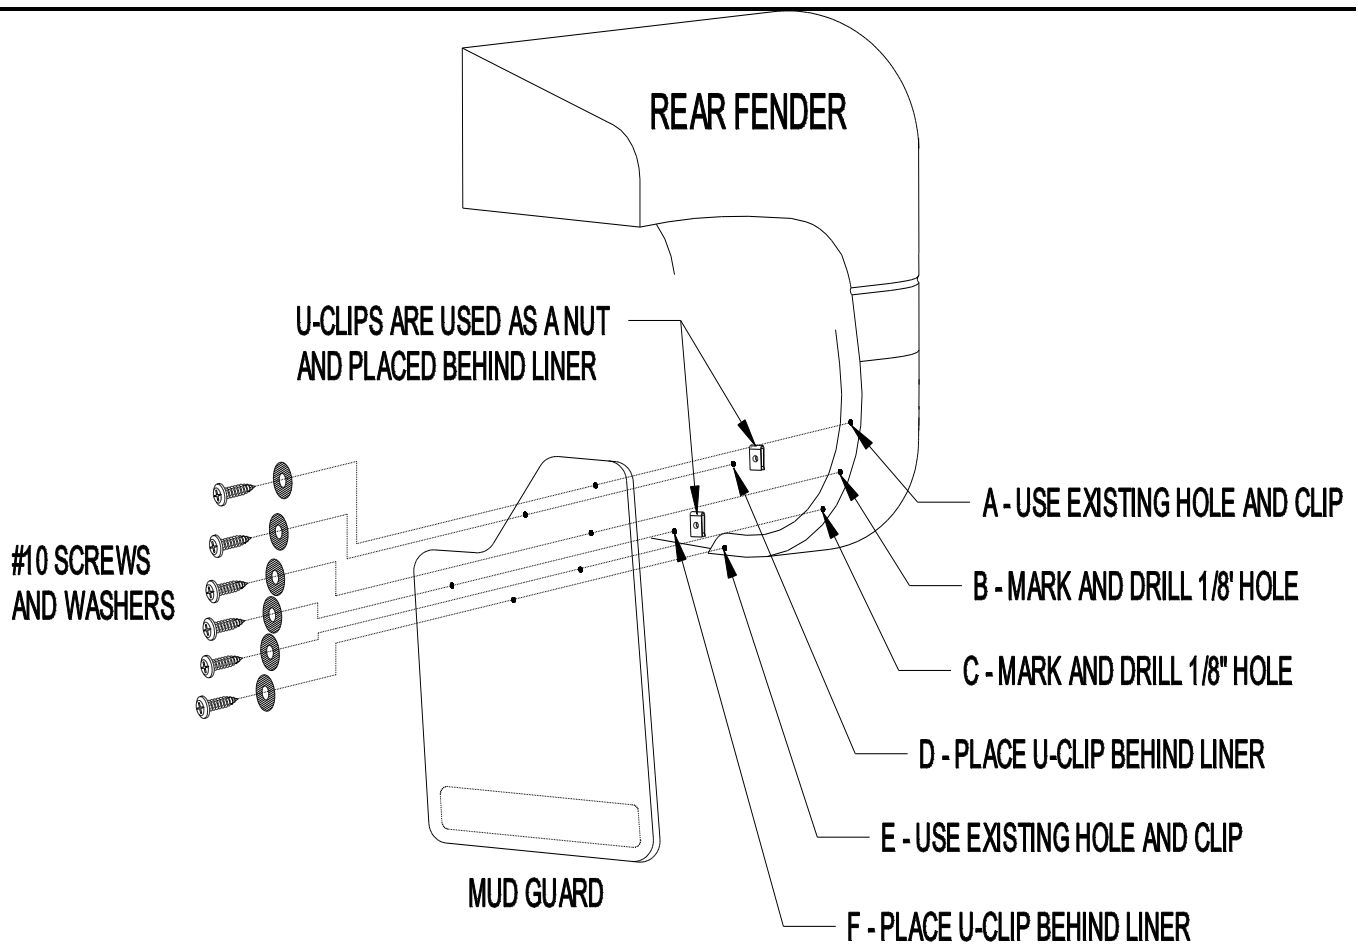

Figure 1
2. Remove existing fasteners from locations A and E (Figure 1).
4. Using mud guard as a template, mark, center punch, and drill 1/8" holes at locations B and C and attach with a #10 screw and washer (Figure 1).
5. Using mud guard as a template, mark and drill 1/8" holes at locations D and F and attach with a #10 screw and washer thru mud guard, fender liner and into a U-Clip (Figure 1).